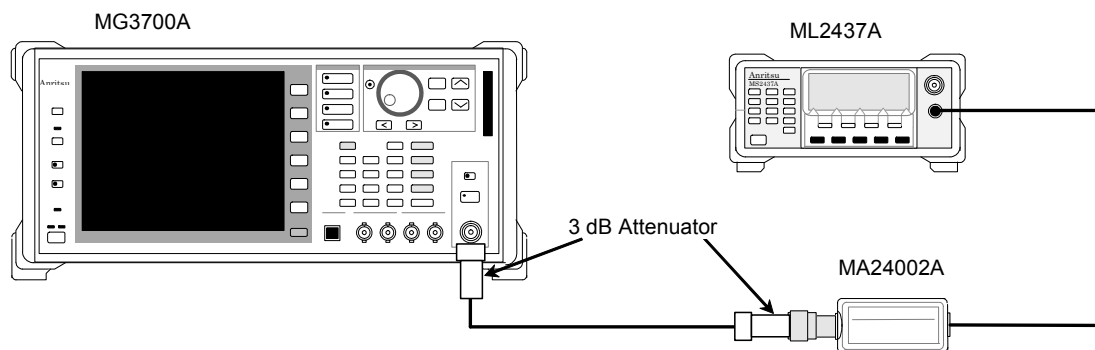

Figure 6.3.2-1 SG Calibration (MOD)
1. Setup the instruments as shown in Figure 6.3.2-1.
2. Set the vector signal generator (SG) as follows: